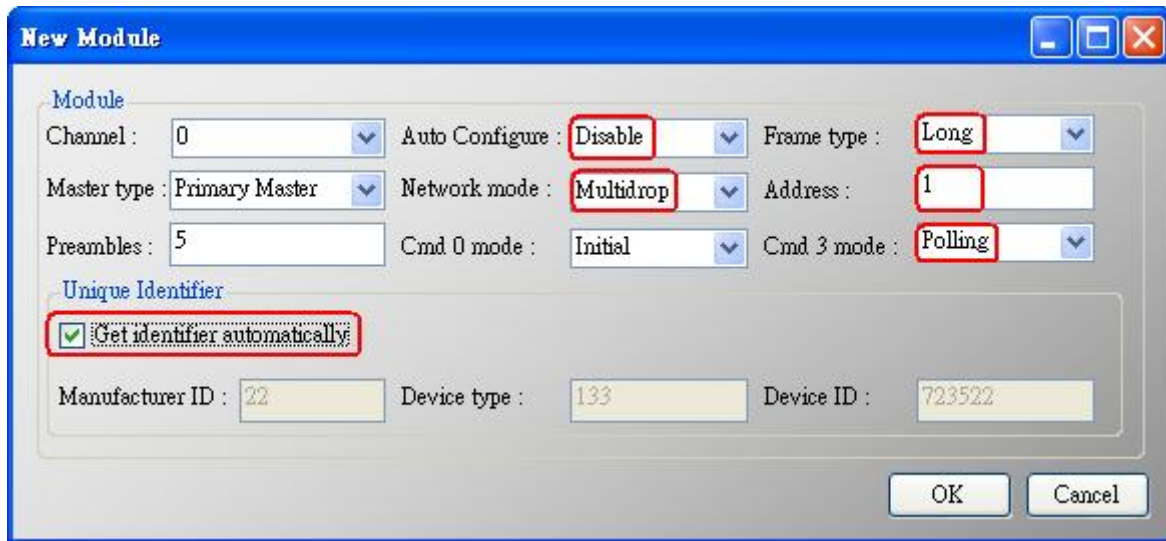

Figure 1-6 Add new HART device setting
(1) Click “Auto Configure” option to be Disable like Figure 1-6.